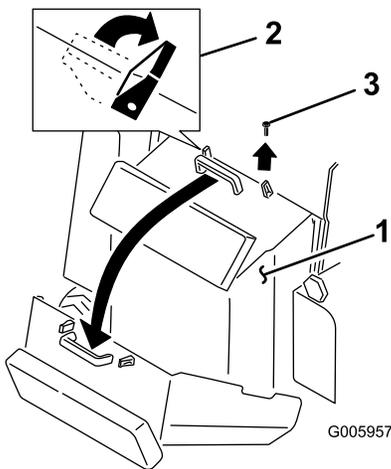

Figure 26
2. Release the two locking tabs on top of the rear access cover (Figure 26).
3. Remove the bolt located next to the right locking tab (Figure 26).
4. Grasping the handle, pull the cover up and back to swing it open (Figure 26).